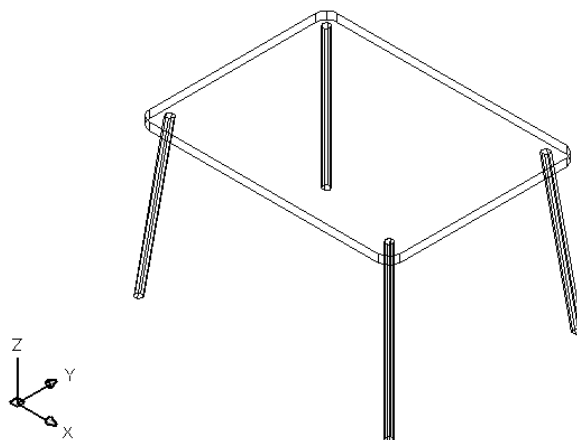

**Figure 23-30:** The completed table.
9. Save your drawing. It should look like Figure 23-30.